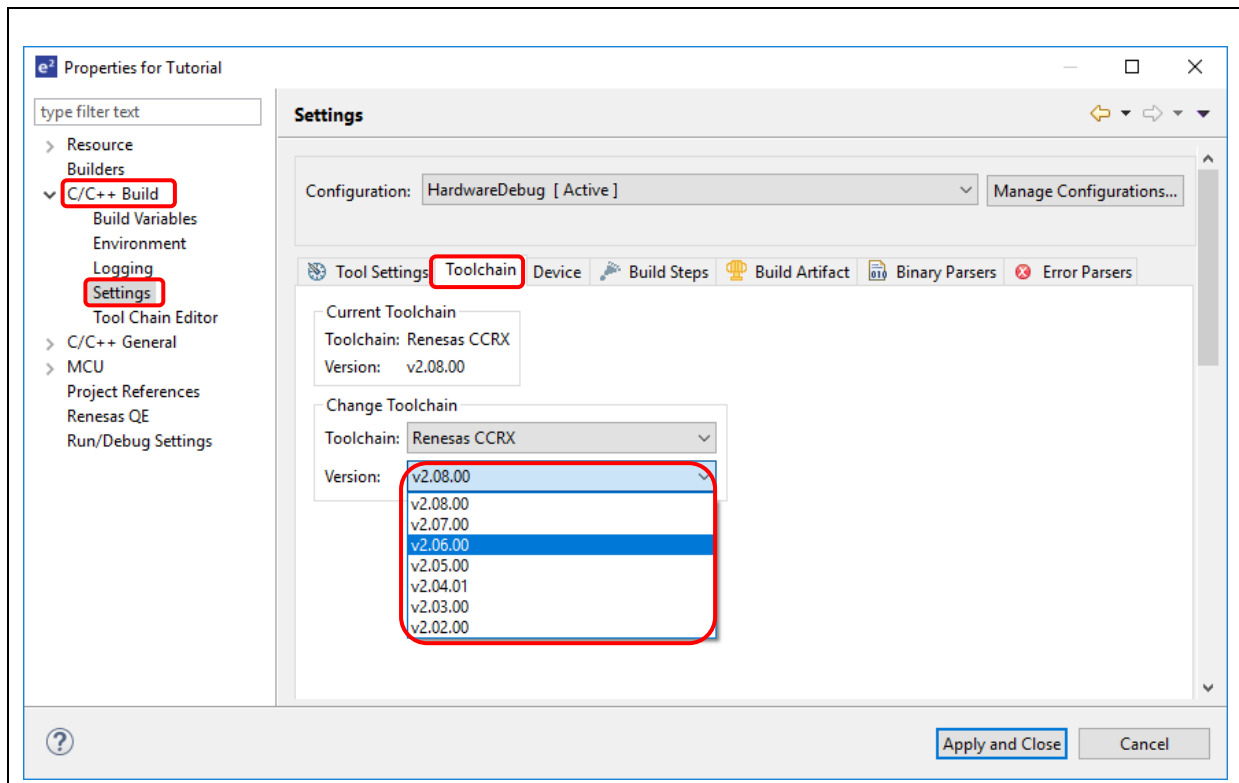

Figure 4-2 Change Toolchain Version
- (2) Click [C/C++ Build] → [Change Toolchain Version] to view or change toolchain version. Refer to figure 4-2, the current version is v2.08.00 and click the “Versions” option to change toolchain version (if additional toolchain is installed).